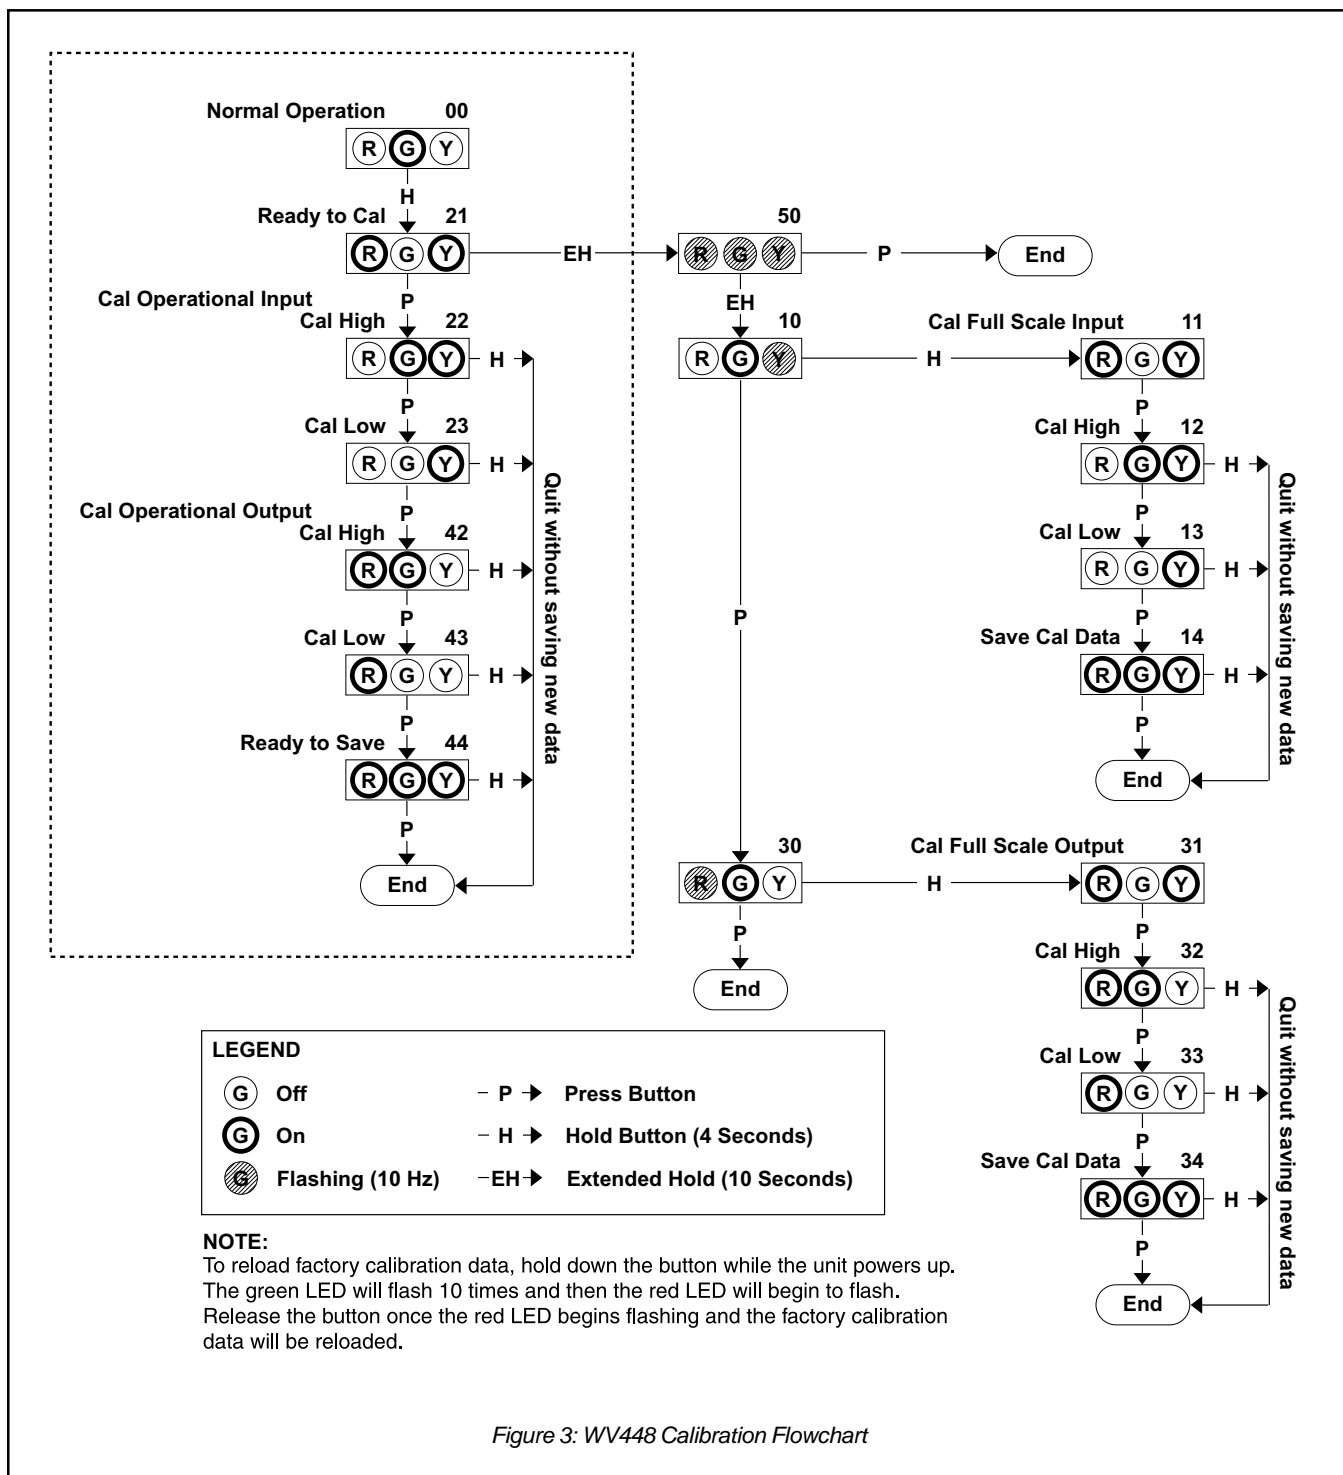

Figure 3: WV448 Calibration Flowchart
1. Connect the input to a calibrated AC source and the output to a voltage or current meter. Apply power and allow the system to reach thermal equilibrium. Refer to Figure 3 for a detailed flow chart of the procedure. The section in the dotted-line box is all that is required for the user to calibrate operational input and output, and is all that is described in this procedure.